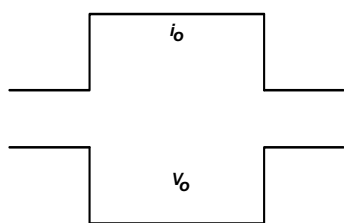
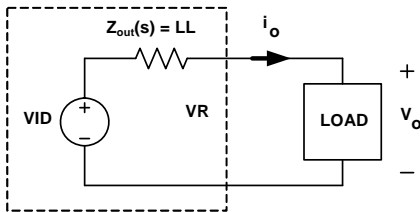

FIGURE 23. DESIRED LOAD TRANSIENT RESPONSE WAVEFORMS
FIGURE 29. VOLTAGE REGULATOR EQUIVALENT CIRCUIT
Assuming the compensator design is correct, Figure 23 shows the expected load transient response waveforms if C_n is correctly selected. When the load current I_{core} has a square change, the output voltage V_{core} also has a square response.
Figure 23 shows the desired load transient response waveforms. Figure 29 shows the equivalent circuit of a voltage regulator (VR) with the droop function. A VR is equivalent to a voltage source (= VID) and output impedance $Z_{\text{out}}(s)$. If $Z_{\text{out}}(s)$ is equal to the load-line slope LL, i.e., a constant output impedance, then in the entire frequency range, V_o will have a square response when I_o has a square change.